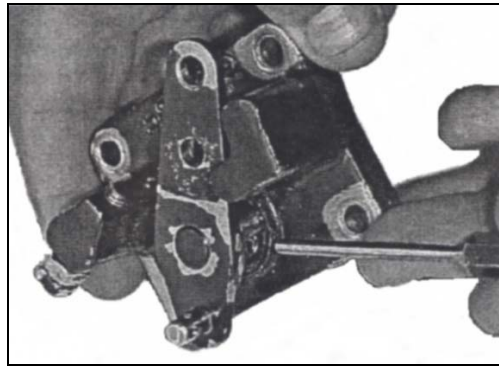

Figure 1. Punch Out Roll Pin with 1/8" Punch
Refer to **Figures 1 & 2**.
2. Remove the run/stop lever from the injection pump cover plate assembly by punching out the roll pin with a 1/8-inch pin punch (**Figure 1**).